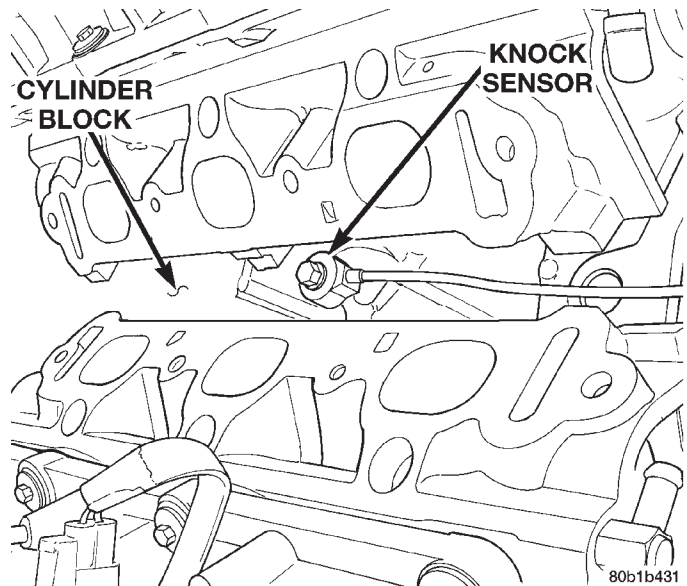

Fig. 65 Knock Sensor Location
- (1) Remove intake manifold plenum refer to Group 11, Exhaust System and Intake Manifold.
- (2) Disconnect electrical connector from knock sensor (Fig. 65).